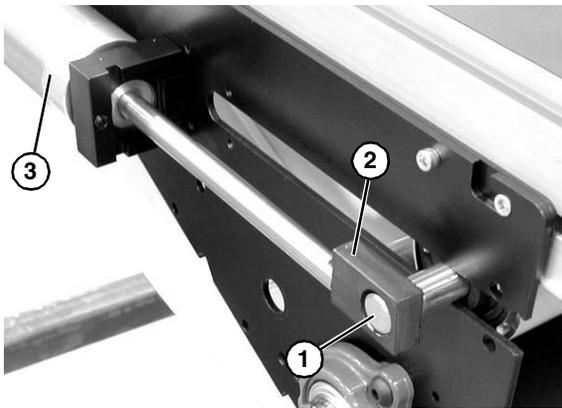

Figure 26
9. Push shaft (Figure 26, item 1) through block (Figure 26, item 2) on opposite side of center drive, slide block toward air cylinder (Figure 26, item 3).